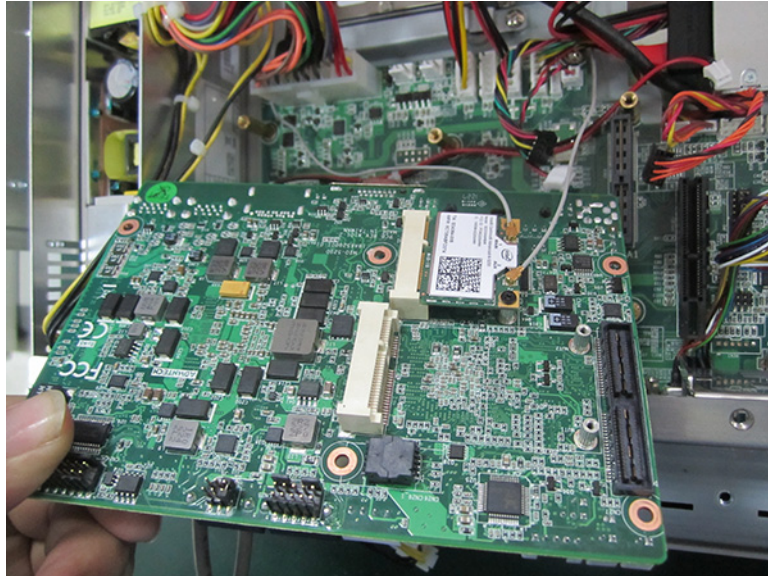

Figure 2.34
3. Connect the antenna to the wireless LAN card, as shown in Fig 2.34.